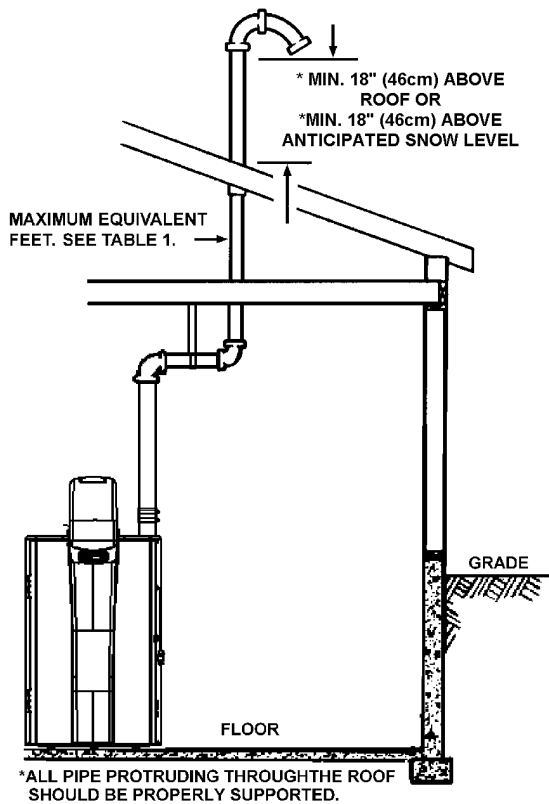

FIGURE 28
1. Vent Termination must extend a minimum of 18 in. (46cm) above roof or 18 in. (46cm) above the anticipated snow level to prevent blockage of the vent termination, as shown in Figures 28 and 29.